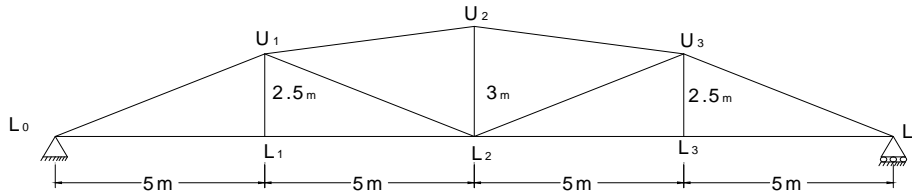

Fig.3
13. Construct the influence line diagram for forces in the members  $U_1L_1$ ,  $L_1L_2$  and  $U_1L_2$  for the truss shown in fig 3. Hence calculate the forces in these members due to a dead load of 30 kN/m and moving live load of 40 kN/m which is longer than the span.